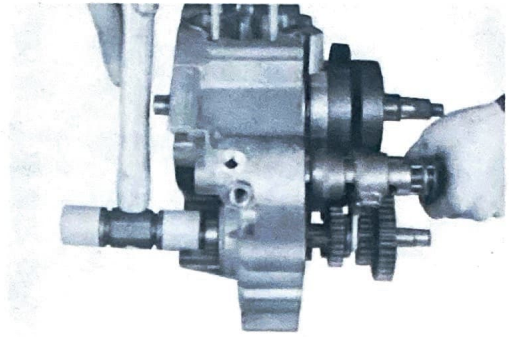

Fig. 4-16-7
- 3) Remove the transmission and shifter as a unit. (Fig. 4-16-7)